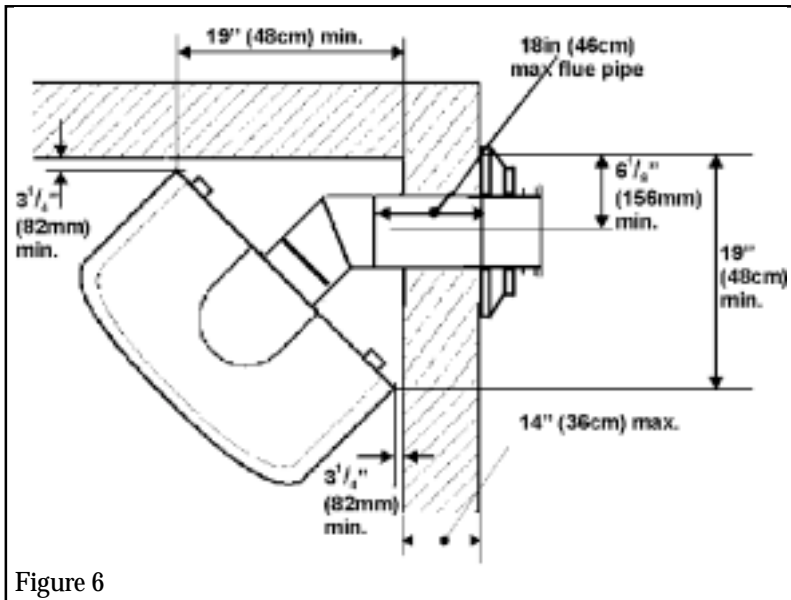

Figure 6
### 4.3.3. Corner location, horizontal flue pipe run only (Fig.6)
*Be aware of the limited maximum vent pipe length and wall depth for this type of installation - See figure 6.*